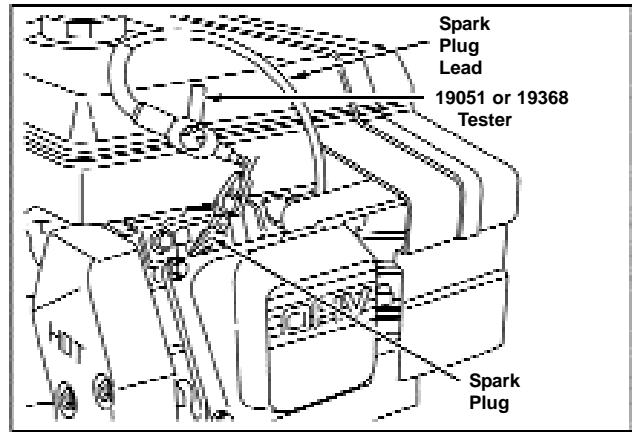

Figure 58 - Running Check
1. To determine if an engine miss is ignition related, use Spark Tester, Tool #95970-96, in series with spark plug lead and spark plug, Figure 58.